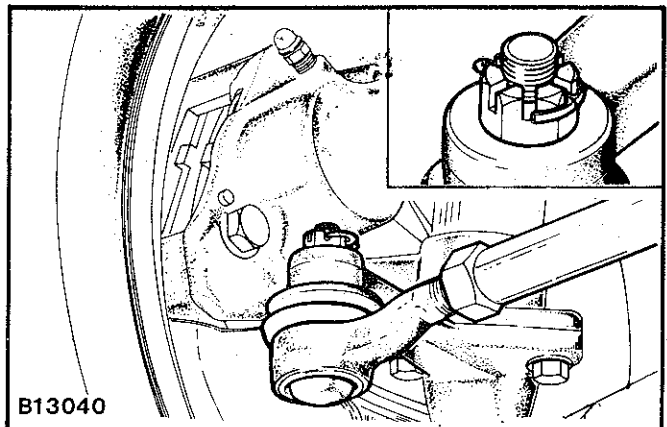

Fig. 5—Installing the tie rod assembly
- (3) When connecting the tie rod assembly to the knuckle arm, tighten the nuts to the specified torque, install a split pin as shown in Fig. 5. Subsequently adjust the toe-in and tighten the lock nut to the specified torque. (Refer to Group 2.)